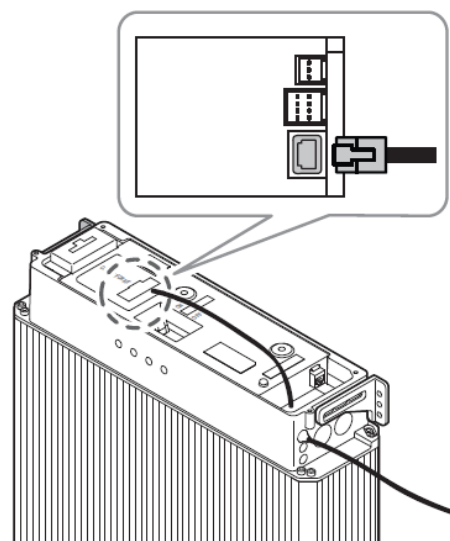

Figure 5 Insert RJ45 plug into battery port
**Step 2** Insert the RJ45 plug into the battery port until it makes a clicking sound (Figure 5).